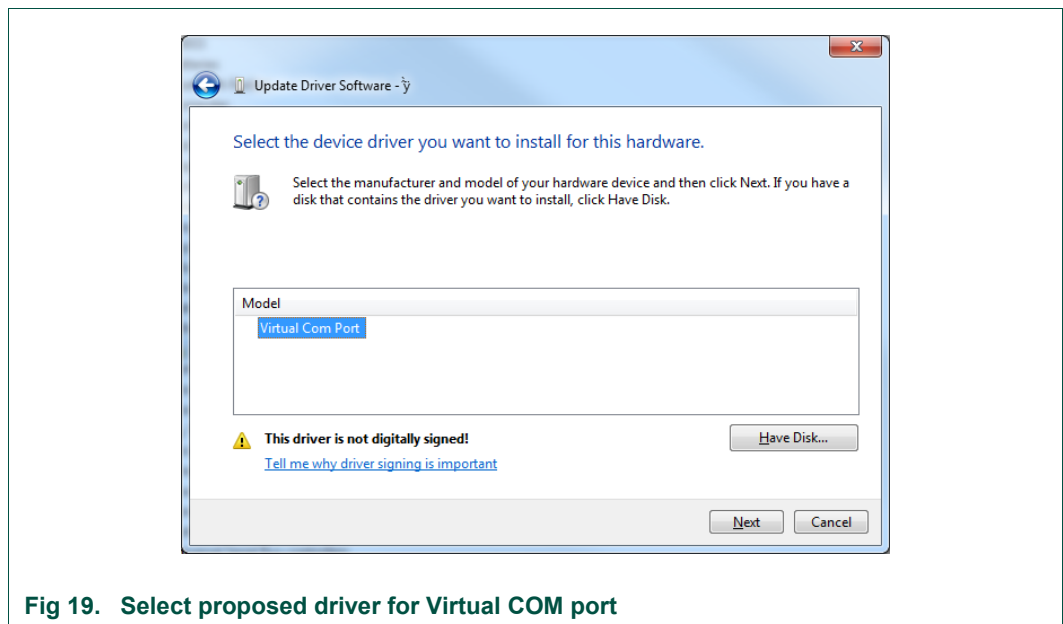

Fig 19. Select proposed driver for Virtual COM port
10. Windows should propose a Virtual COM port (see Fig 19). Select it then click “Next”